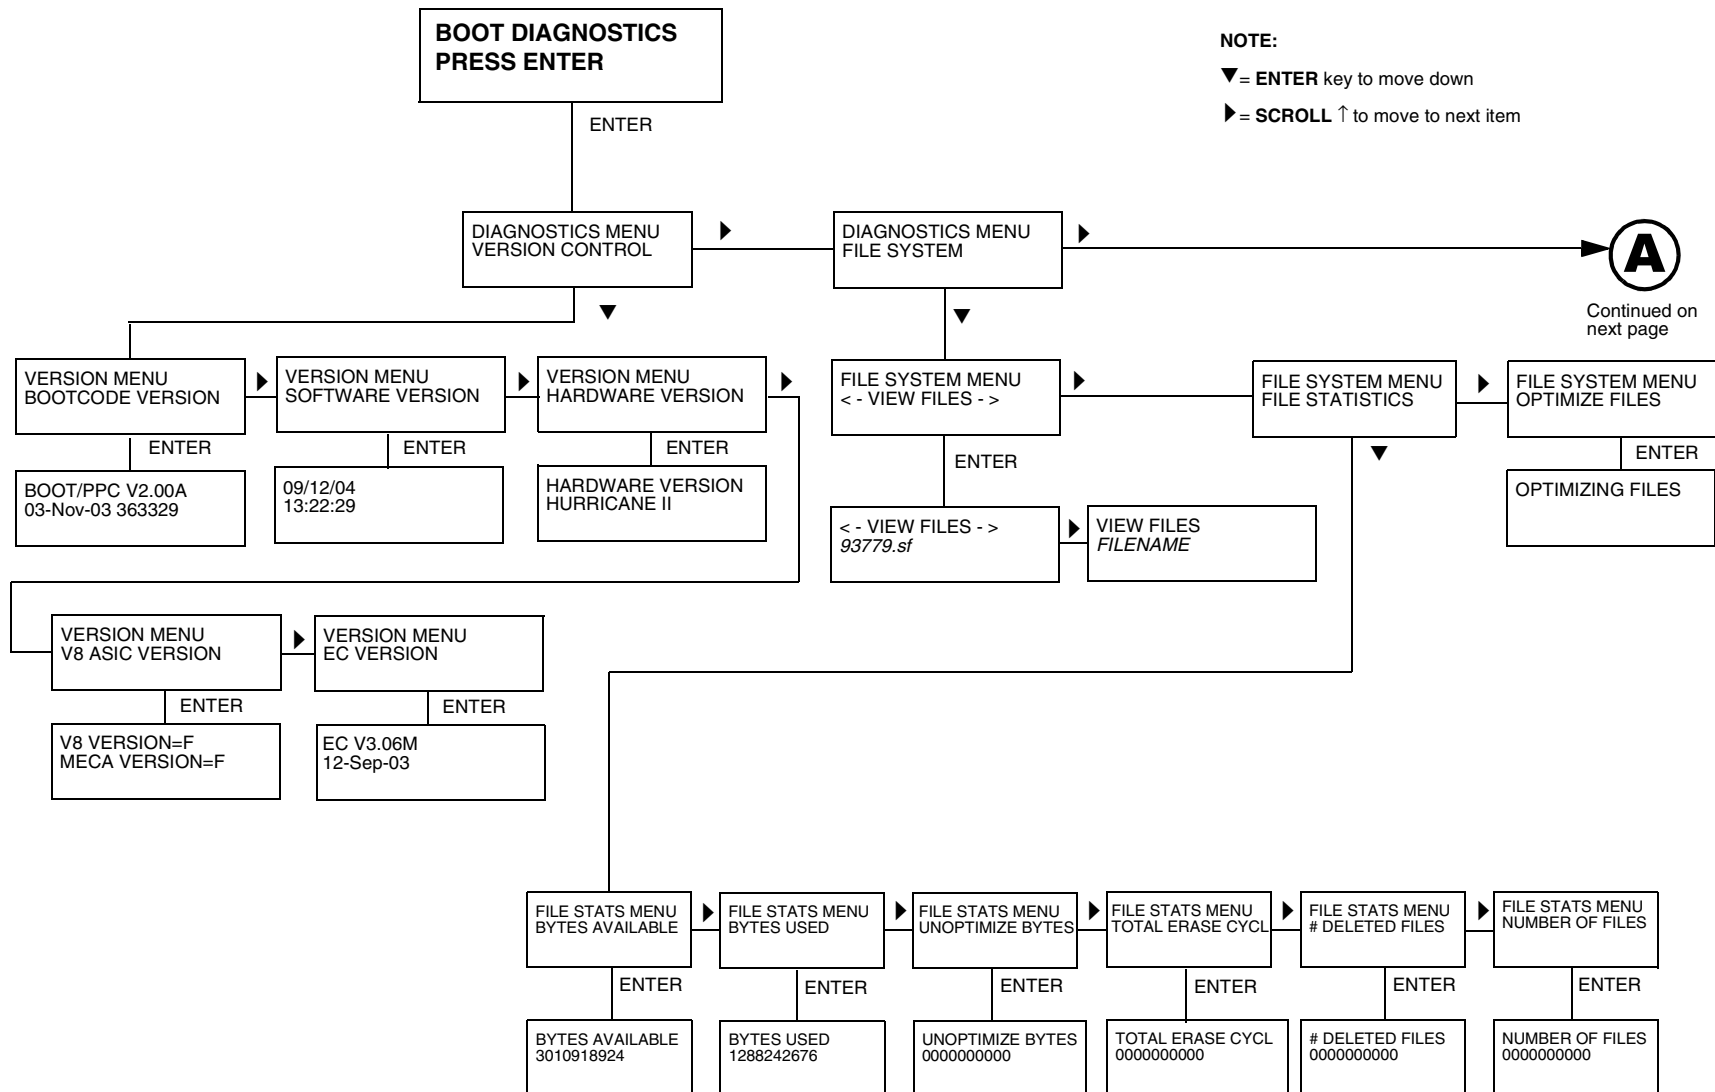

Figure 8. This figure shows the Boot Diagnostics Menu, and continues on the next page.
Printer boot-up software contains a menu structure that you can access by holding down the **EJECT** and **STOP** keys while powering up the printer. These menus are not intended for the end user, but provide useful information for manufacturing and maintenance personnel. The boot diagnostic menu structure is depicted in Figure 8.
5. Press the **ENTER** key. Menu options are shown in Figure 8.